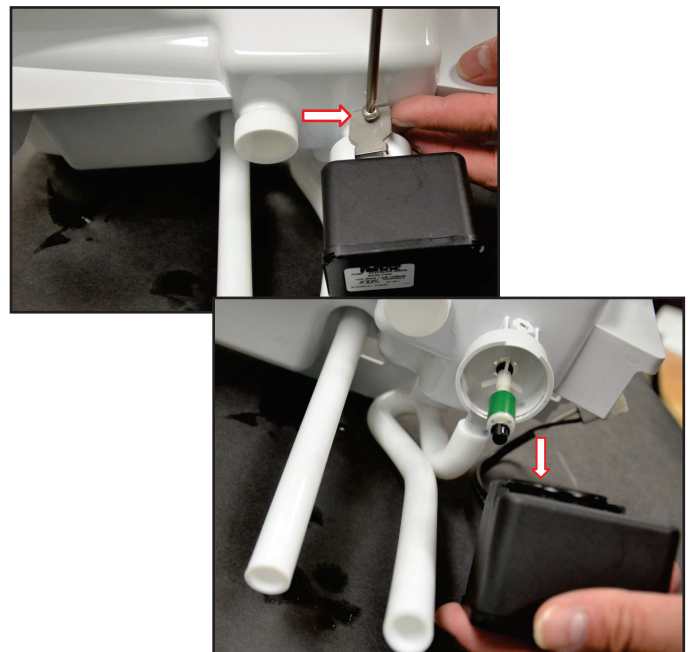

FIGURE 18
**NOTE:** It's normal for the impeller and stator to separate when removed. If the pump is going to be reassembled for use – check the seals. See *Figure 18*.